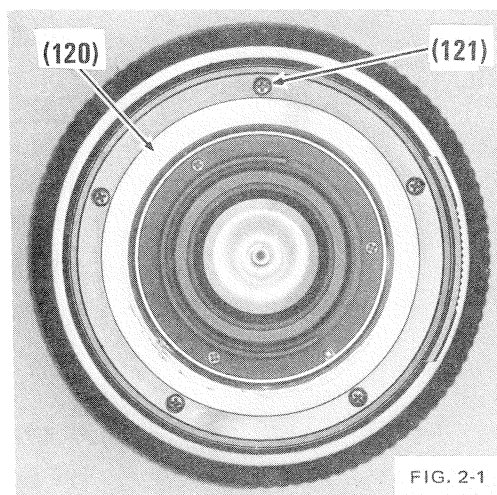

FIG. 2-1
- a) Remove five screws (121); lift off mount (120). Fig. 2-1.
- h) Seal and tighten three screws (63). (Instruction 2.1.1f.)
- j) Install seven screws (78) attaching mount to lens. Fig. 2-1.